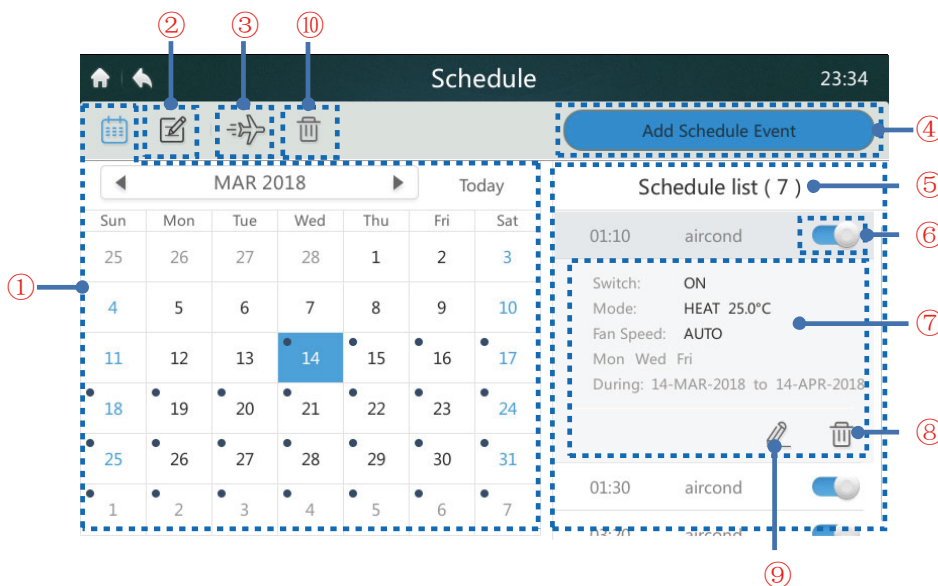

Figure 19 Homepage of Schedule page
1. Tap the add schedule button marked "4" in Figure 19 to enter the interface, as shown in Figure 20.
1. Tap the "✈️" button marked "3" in Figure 19 to enter holiday settings, as shown below. Schedules are not implemented during the holiday period.
Tap the "🗑️" button marked "10" in Figure 19 to delete all the schedules settings. The following prompt appears, as shown below. Tap "Delete" to delete the schedule or tap "Cancel" to cancel the operation.